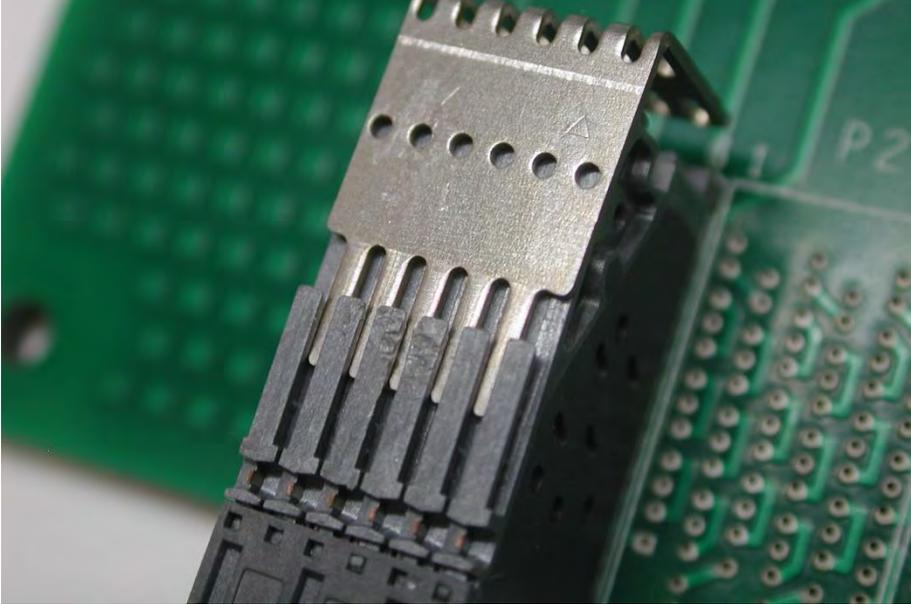

Figure 13: Stiffener positioned on daughtercard module(s)
- Step 9.** Reinstall stiffener onto connector using installation/removal tool. The tool is installed onto the stiffener 180° from the position used during the removal steps (Delrin insert facing down). Open the stiffener removal tool so that the daughtercard fits into the open jaws of the tool and turn the knob clockwise until the stiffener begins to move. Move the tool along the length of the connector and repeat this process until the stiffener is fully seated, see Figure 13.